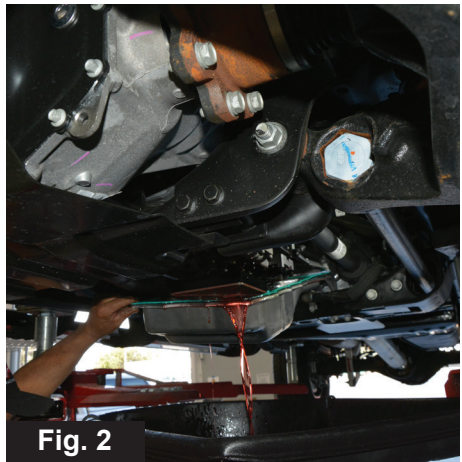

Fig. 2
4. Tilt the rear of the pan down to drain the remaining fluid. (**Fig. 2**) Remove the stock pan.